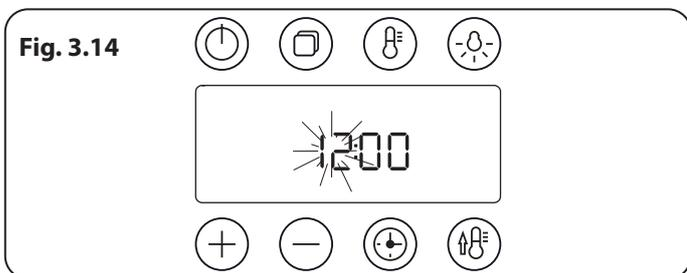

Fig. 3.14
1. Once the cooker is connected and switched on, the hours in the display will flash (**Fig. 3.14**).